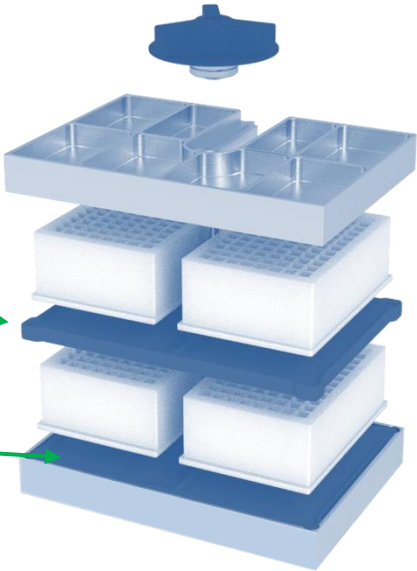

Figure 18 – Stacking Titer Plates
6. Place a set of 2 titer plates in the clamp base making sure that the plates are properly seated in the nests (Figure 18).
7. Place a double-sided nesting tray onto the titer plates in the clamp and stack a second row of plates on top, again making sure that the plates are properly seated in the nests (Figure 18). It is not necessary to place a nesting tray on top of the upper row of titer plates.
When the Admin Lock mode is disabled the button will display “OFF” highlighted with a red background, as shown in Figure 18. To enable or disable the Admin Lock feature touch the button to toggle ON or OFF. This will bring up a Number Pad to enter a 4-digit authorization code (**default code is 0000**). To abort entering a code touch the Cancel key on the Number Pad. Note, if the wrong 4-digit code is entered the Admin Lock mode will remain enabled.
To choose the protocols to be available to users when in Admin Lock mode, touch the PROTOCOLS button (see Figure 18) and enter the passcode. Then touch ENABLE and touch the protocols to be made available. When finished, touch SELECT. Go back to the Saved Protocols screen to verify that the correct protocols are shown.